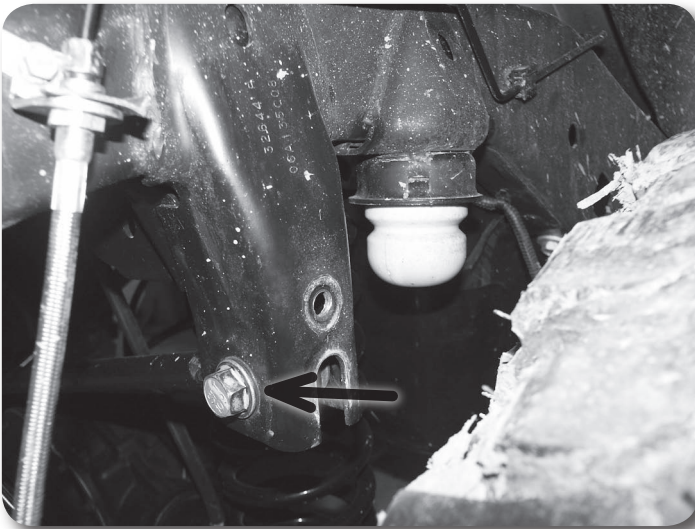

Figure 3
2. Disconnect the rear track bar from the frame (passenger's side). Save hardware. (Figure 3)